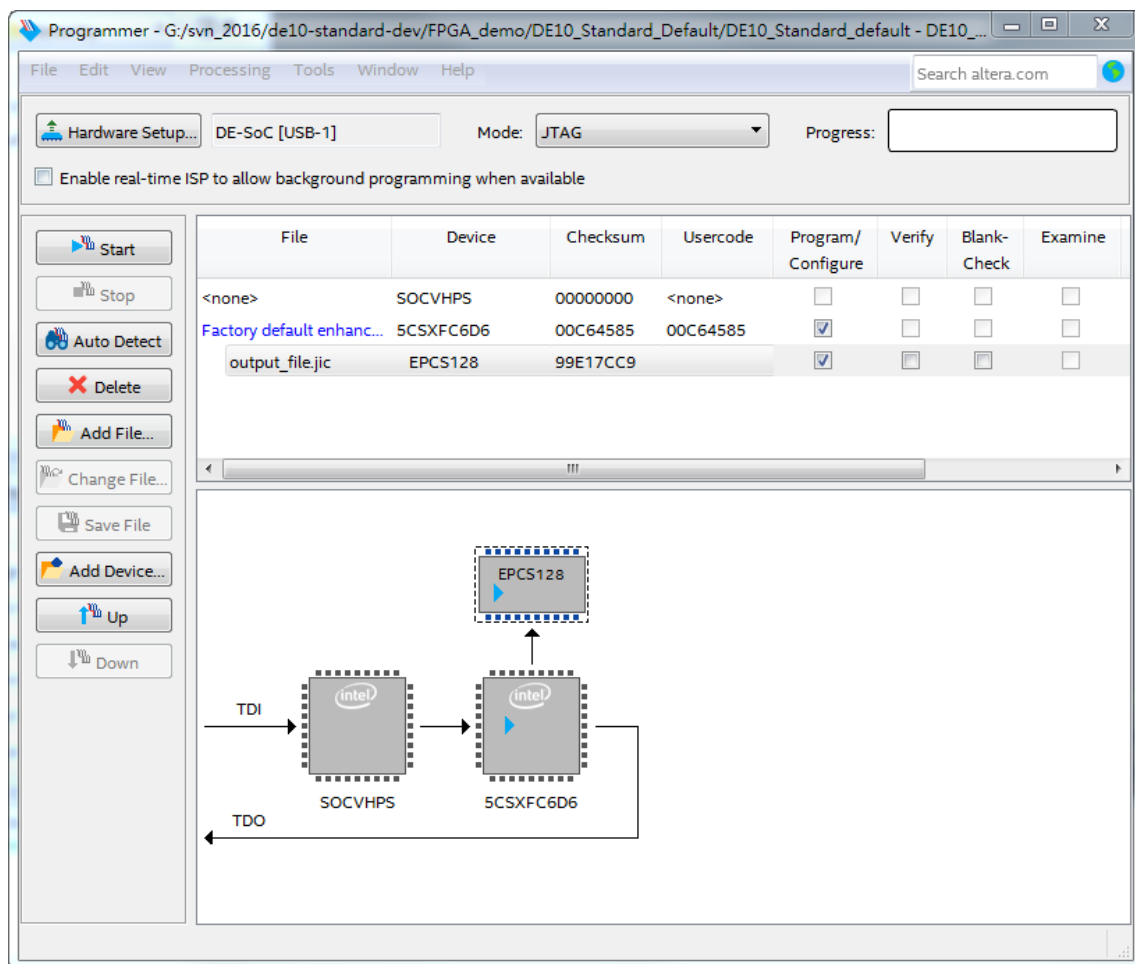

Figure 8-7 Quartus II programmer window with one .jic file
5. Program the EPCS device by clicking the corresponding **Program/Configure** box. A factory default SFL image will be loaded, as shown in Figure 8-7.